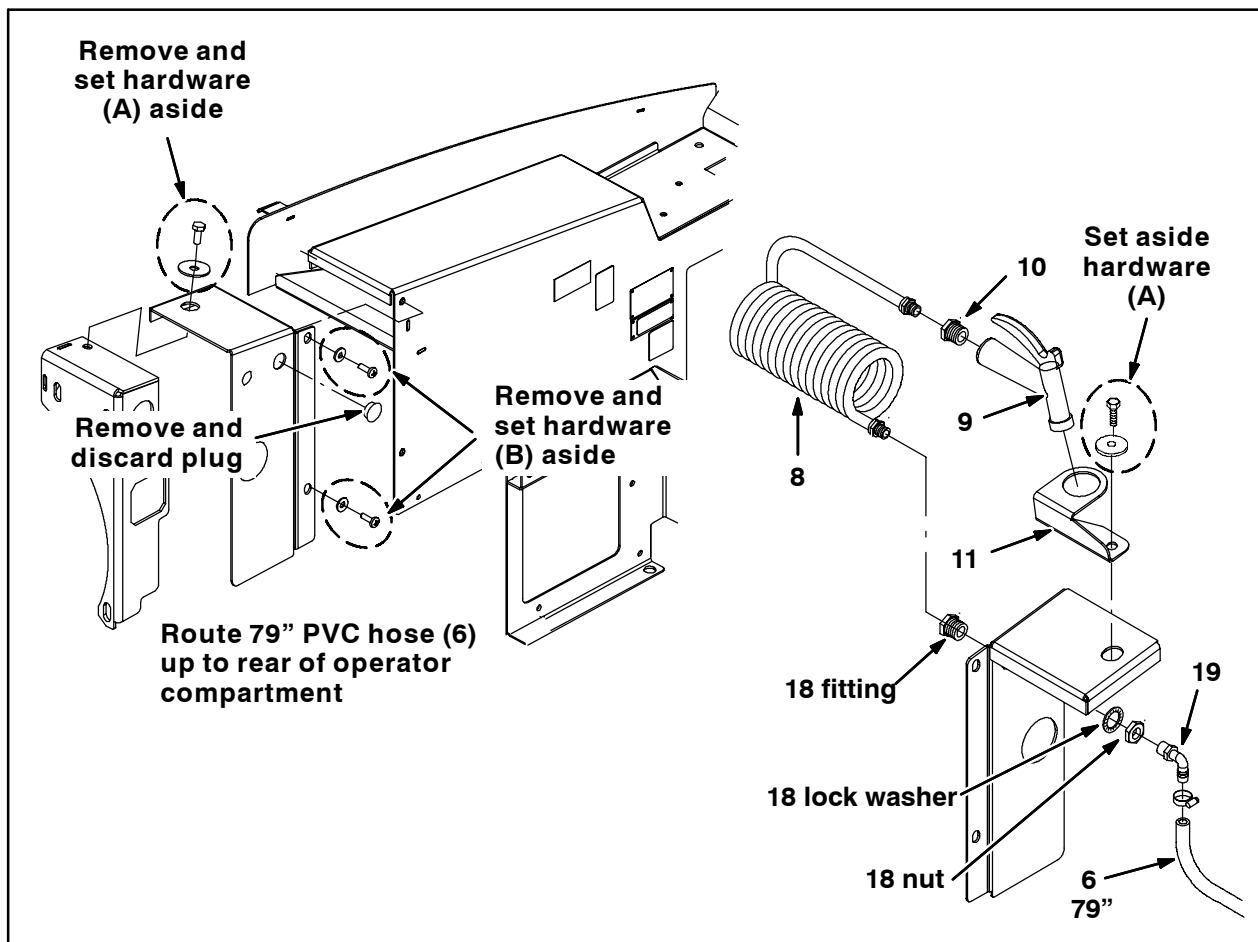

FIG. 6
12. Remove the removeable panel from the rear corner of the operator compartment. Set the panel and hardware (A) and (B) aside. Refer to Fig. 6.
13. Remove the plug from the removeable panel removed from the machine in the previous step. Discard the plug. Refer to Fig. 6.
14. Route the 79" PVC hose (6) up to the rear of the inner back corner of the operator compartment. Refer to Fig. 6.
15. Remove the lock washer and nut from straight fitting (18) and use the lock washer and nut to install the straight fitting into the rear of the operator compartment where the plug was previously located. Refer to Fig. 6.
16. Apply sealant onto the threads of the 90° plastic fitting (13) already installed on the 79" PVC hose (6) and install the fitting into the straight fitting (18) installed in the rear of the operator compartment. Refer to Fig. 6.
17. Apply sealant onto the threads at one end of the coiled water hose (8) and install the hose into the straight fitting (18) installed in the rear of the operator compartment. Refer to Fig. 6.
18. Use the saved hardware (B) to reinstall the removeable panel into the rear corner of the operator compartment. Refer to Fig. 6.
19. Use the saved hardware (A) to install the spray handle mounting bracket (11) onto the removeable panel reinstalled in the previous step. Refer to Fig. 6.
20. Thread the straight brass fitting (10) into the spray gun (9). Refer to Fig. 6.
21. Apply sealant onto the threads at the other end of the coiled water hose (8) and thread the spray gun (9), with brass fitting already installed (10), onto the coiled water hose. Refer to Fig. 6.